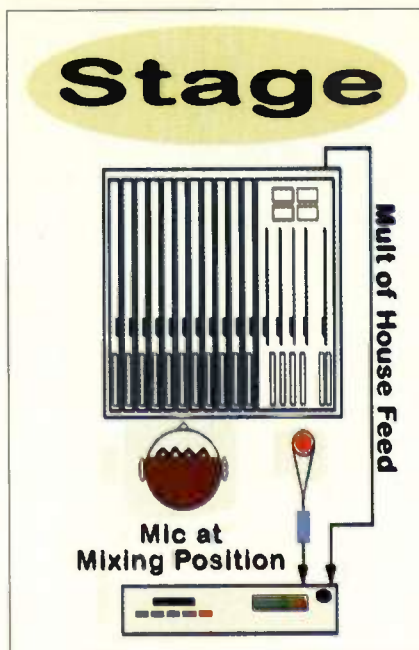

FIGURE 2
2. **Recording Performances:** Live gigs have a way of pumping the ego into uncontrollable excess. Big hair, big amps, big lights, (hopefully) big audience, big equipment changes, big supposed record company attendance, and big space. These combined ingredients usually equal big disappointment. For more humiliating proof for the person who was way-too-loud, route the house mixer output to one channel of your tape deck. On the other channel, place a microphone at the soundperson's mixing position — fed through a preamp or an impedance-matching transformer (Radio Shack Part # 274-016) as shown in fig. 2.